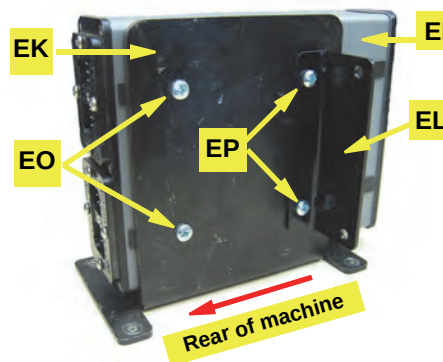

Figure 1c: Installed ECU and controller bracket (viewed from driver's seat side)
- c. Using the shorter hardware **EO** through the rear-most holes in bracket **EK**, attach **EI** (cable connectors rearward) loosely to the inside face of bracket **EK** (Figure 1c - viewed from driver's seat side).
- d. Using the longer hardware **EP** through the narrow side of bracket **EL** (wider side forward) and the remaining holes in bracket **EK**, secure **EI** and **EL** to **EK** (Figure 1c). Tighten **EO** and **EP**.